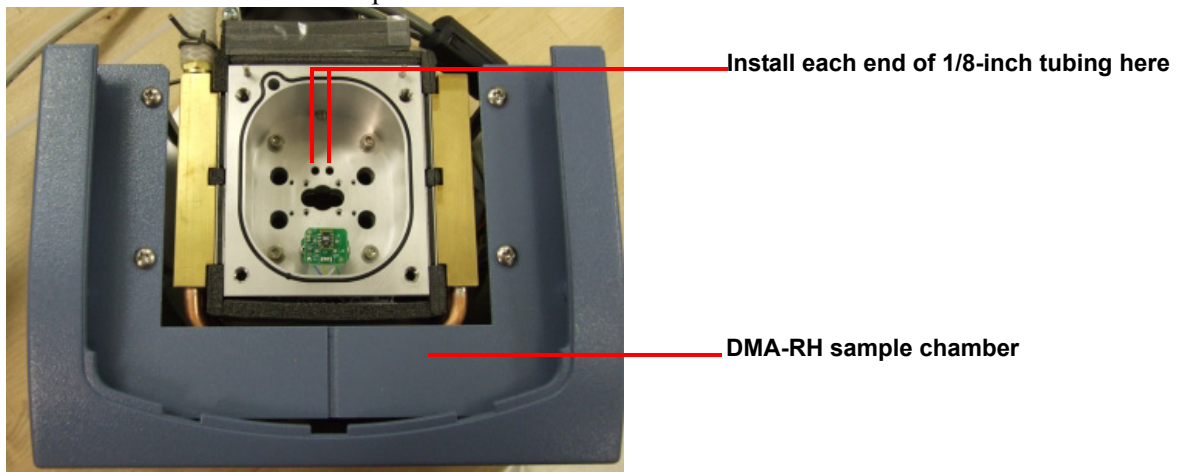

Figure 11 DMA-RH sample chamber and shaft cover.
- 6 Obtain the 1/8-inch tubing from the accessory kit, and install each end through the two small holes in the sample chamber where the thermocouples will pass through. Refer to Figure 11 below for the proper location of the holes in the sample chamber.